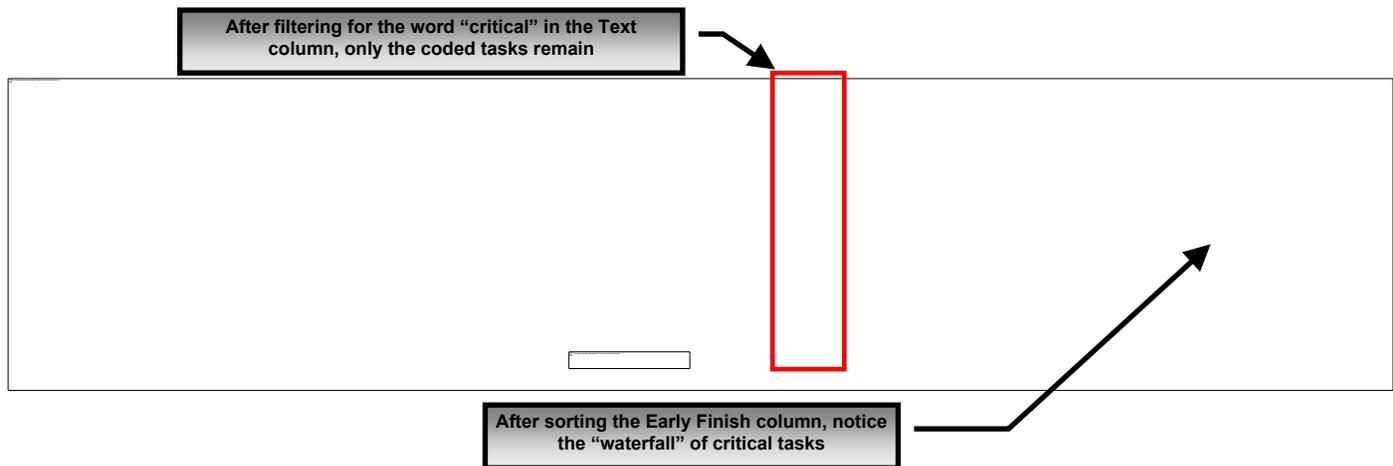

Figure 2 - Critical Tasks
9. Filter for the critical path code that was created in the “Text” column in step 7. See Figure 2.